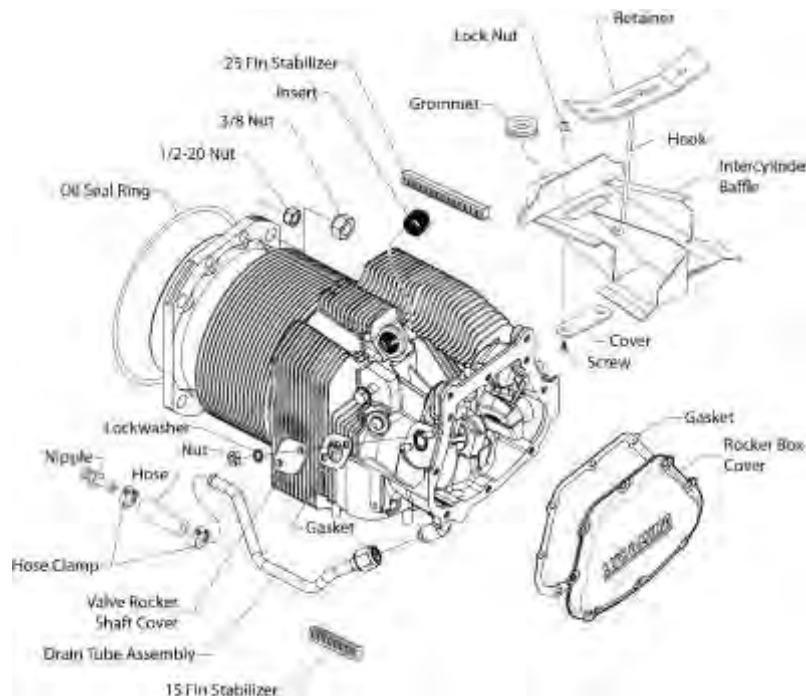

Figure 1
- A. Examine the cylinder and cylinder head (Figure 1) thoroughly for cracks, leaks, rust, pitting and/or damage. Replace a damaged, rusted, pitted, leaky or cracked cylinder per instructions in this chapter.
- E. Look for cracked or broken fins and baffles (Figure 1). If a cooling fin adjacent to the exhaust port flange is cracked, a 3/16 in. (4.76 mm) diameter hole can be drilled as a stop, under the following conditions:
- (1) There cannot be more than four blended fins on the push rod side of the head, or
- (2) No more than six blended fins on the anti-push rod side of the head.